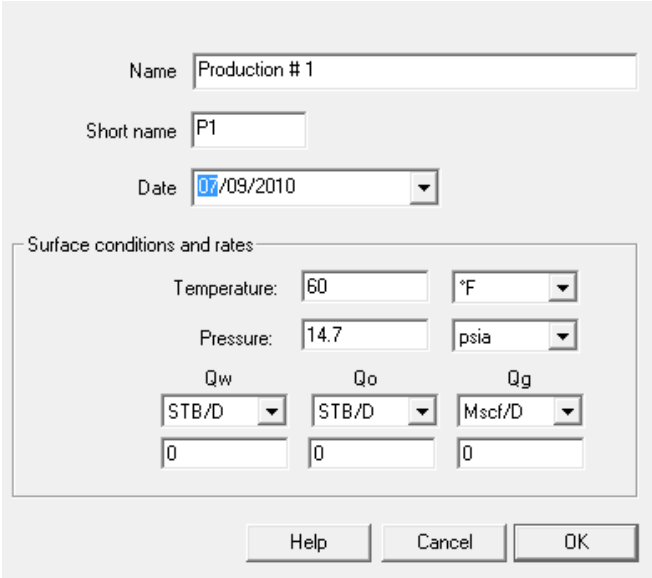

Fig. B01.7 • Survey Infos
- Change the survey names (Fig. B01.7): Name = **Production #1**; Short name = **P1**. Confirm with OK.